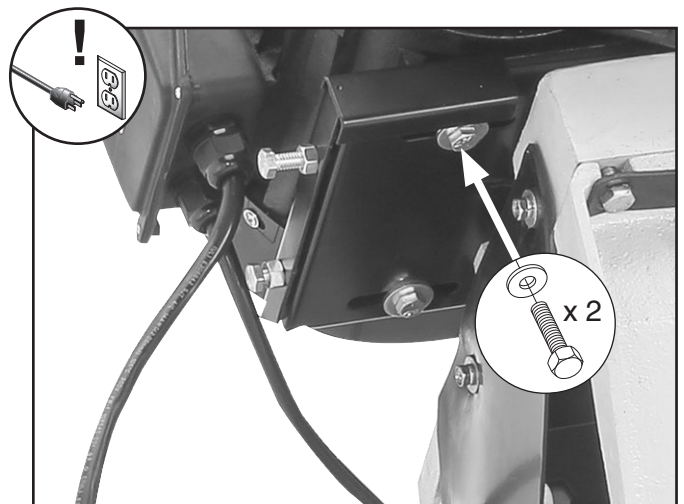

Figure 49. Location of motor mount hex bolts.
- Loosen hex bolts shown in **Figure 49**.